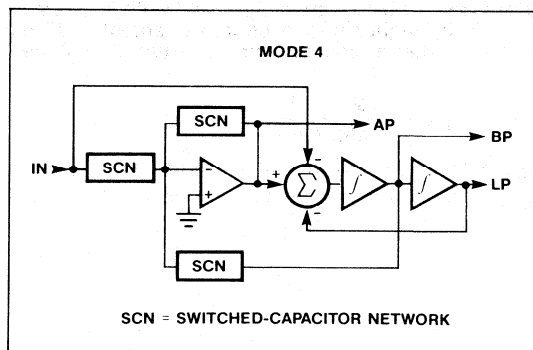

Figure 11. Filter Mode 4: Second-Order Bandpass, Lowpass and Allpass
**MODE 4** (Figure 11) is the only mode that provides an allpass output. This is useful when implementing group delay equalization. In addition to this, Mode 4 can also be used in all pole lowpass and bandpass filters. Along with Mode 1, it is the fastest operating mode for the filter, although the gains are different than in Mode 1. When the allpass function is used, note that some amplitude peaking occurs (approximately 0.3dB when  $Q = 8$ ) at  $f_0$ . Also note that  $f_0$  and  $Q$  sampling errors are highest in Mode 4 (See Figure 20).